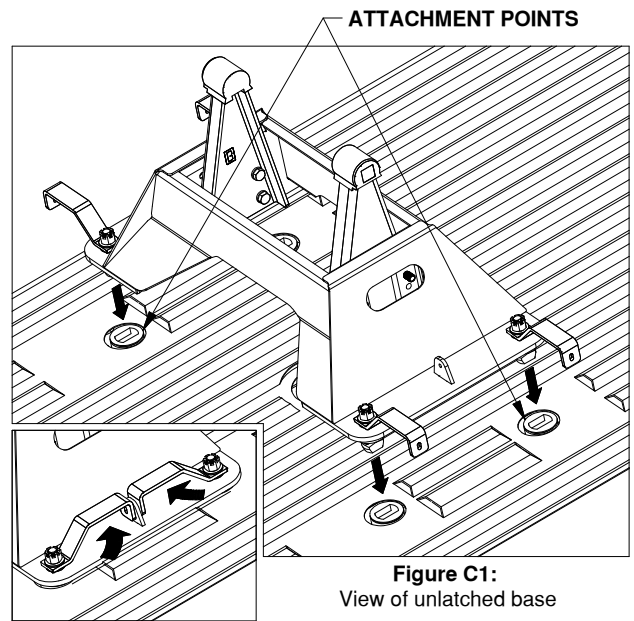

Figure C1:
1. **Place base.** Remove the latch pins from each side of the base and rotate the handles out, see Figure C1. Position the base over the attachment points. Carefully lower it until the latch cams pass through the floor and the base rests flat against the top of the attachment points.